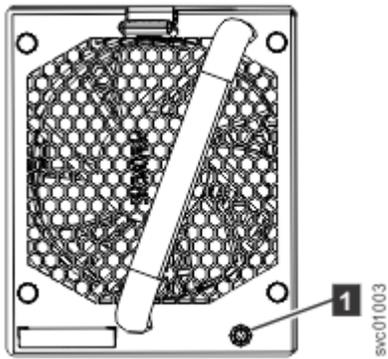

Figure 120. Fan module LED
1. Identify the fan module to be replaced. When lit, the amber LED on the front of the fan module (1 in Figure 120 on page 111) identifies a fault.